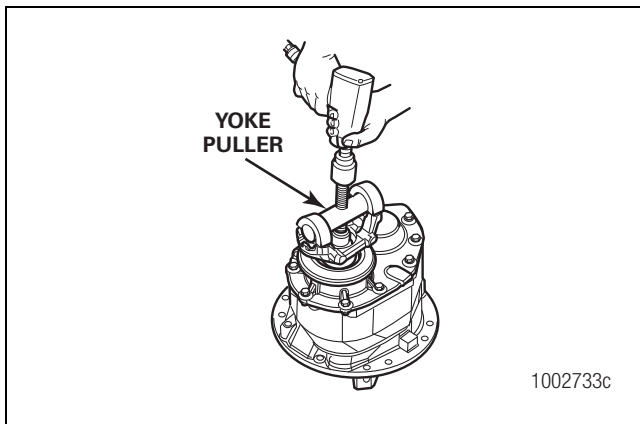

Figure 15
2. Use a yoke puller or other suitable tool to remove the yoke from the input shaft. Figure 15.